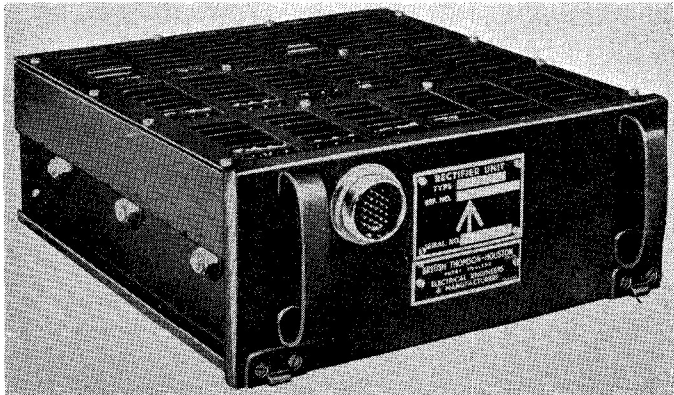

Fig. 1. Rectifier unit, Type CP16
2. The rectifier unit (fig. 1) is intended for mounting on a standard tray. It has a detachable top cover, and the three rectifier units, MR8, MR9 and